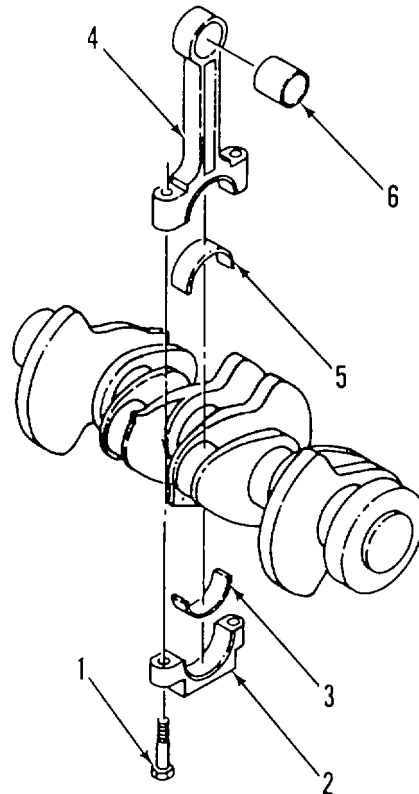
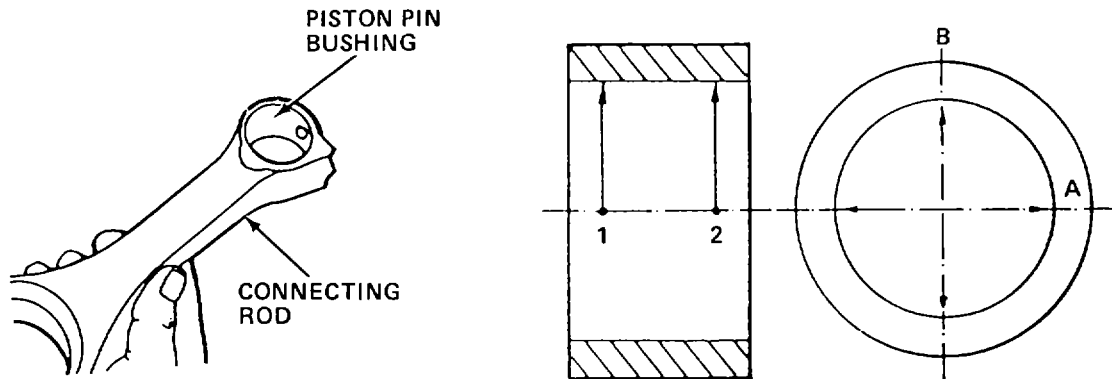

Figure 4-11. Connecting Rods
Figure 4-12. Connecting Rod Measurements
- a. REMOVE. (Figure 4-11)
- (1) Remove connecting rod capscrews (1).
- (1) Check connecting rod for straightness and visible damage. Replace defective connecting rod.
- (2) Using micrometer, measure inside diameter of piston pin bushing at points 1 and 2 in the planes of a and b. Correct measurement is 1.577-1.579 in. (40.040-40.084 mm).
- (3) Remove any worn bushing (6, Figure 4-11) and press in new bushing. Make sure oil holes are aligned.
- (4) Install rod cap (2) on connecting rod (4).
- (5) Install connecting rod capscrews (1). Torque screws to 22 ft • lbs (29.8 N•m).
- (6) Using angle-of-turn indicator, tighten rod capscrews 30°, then 60°.
- (7) Using micrometer, measure inside diameter of connecting rod bearing bore at points 1 and 2 in the planes of a and b (Figure 4-12). Correct measurement is 2.6792-2.6799 in. (68.0-68.019 mm).
- (8) Replace a defective connecting rod.
- (9) Remove connecting rod capscrews and cap.
- (10) Check connecting rod bearing clearance as follows:
- (b) Install bearing shell (5, Figure 4-11) in bore of connecting rod (4).
- (c) Install bearing shell (5) in rod cap (2).
- (d) Install rod cap (2) on connecting rod (4) with capscrews (1).
- (h) Replace bearing shells (5) or crankshaft if correct clearance (0.0059 in. (0.15 mm)) is not obtained.
- (i) Remove connecting rod capscrews (1) and rod cap (2). Remove bearing shells (5).
c. INSTALL. (Figure 4-11)
- (1) Install new bearing shell half (5) in bore of connecting rod (4).
- (2) Lightly coat bearing shell (5) and crankshaft journal with oil.
- (3) Install connecting rod (4) on crankshaft journal.
- (4) Lightly coat crankshaft journal and other bearing shell half (3) with oil.
- (5) Insert bearing shell (3) half in rod cap (2).
- (6) Install rod cap (2) with new rod capscrews (1) on connecting rod (4).
- (7) Torque rod capscrews to 2.216 ft. lbs (5.629 Nom).
- (8) Using angle-of-turn indicator, tighten rod capscrews (1) 30°.
- (9) Tighten rod capscrews (1) 60°.